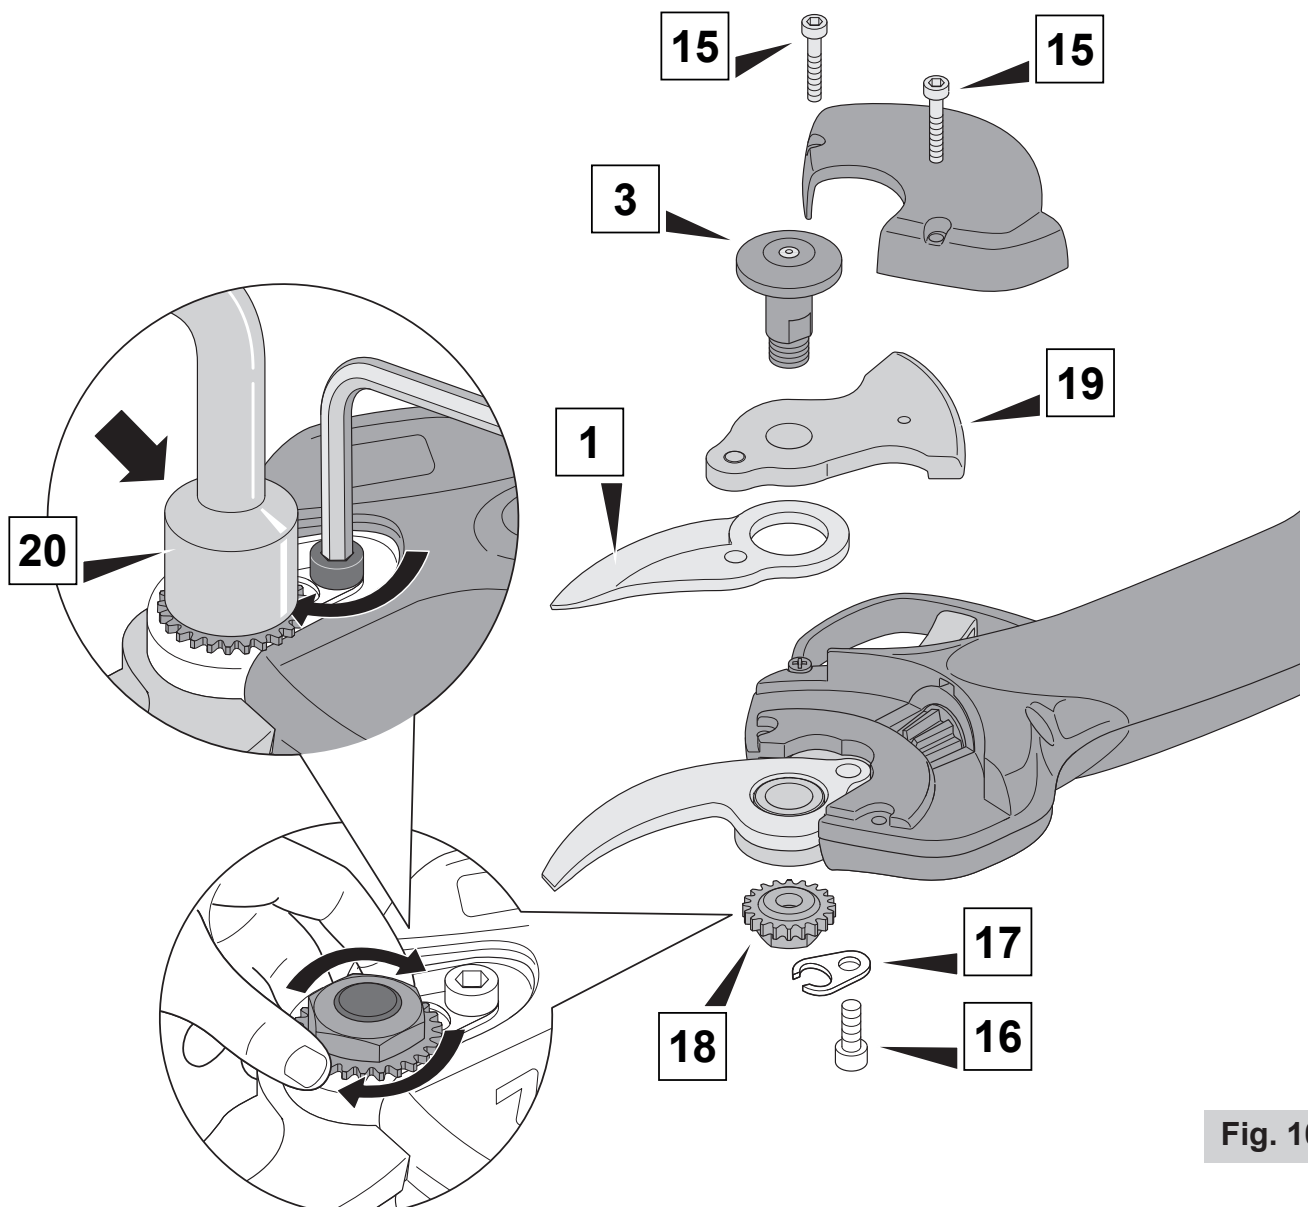

Fig. 10
- Loosen the screws (15) (Fig. 10) and remove the protective cover;
- Using the Allen key (20) supplied with the kit, loosen the screw (16) of the stopper (17);
- Unscrew the blade nut (18) and on the opposite side remove the pin (3);
- Separate the blade (1) from the rack (19);
- Replace the blade (1) with a new one
- lubricate the pin (3) and the blade (1)
- Grease the rack (19)